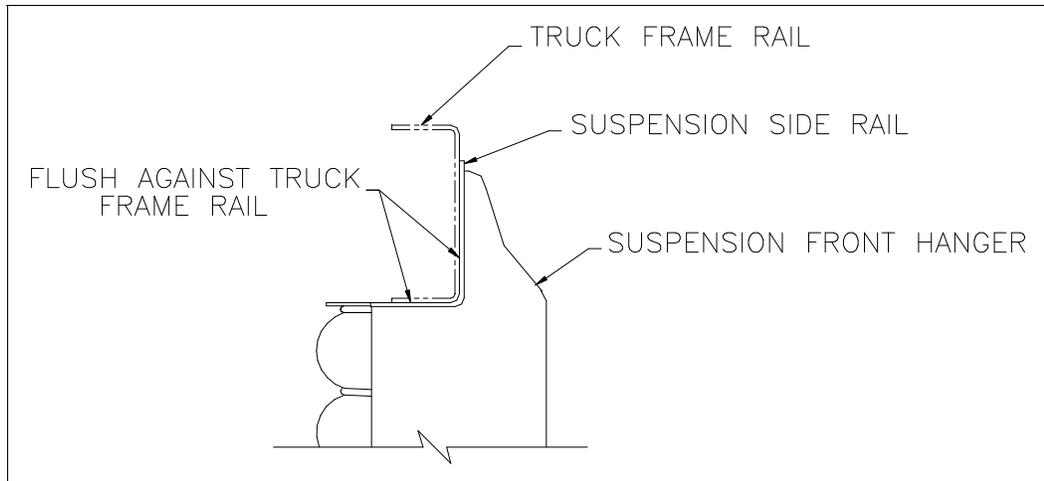

Figure 4-3
5. **IMPORTANT** - The entire Auxiliary Suspension mounting surfaces must set flush with both the side and bottom of the truck frame rails or spacers. Failure to do so will void all of the suspension warranty. (See Figure 4-3)